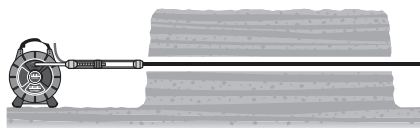

Figure 11 – Connect Air Hose To The CROSSCHEK Inspection System
5. Securely connect the air hose to the adapter on the cone of the CROSSCHEK Inspection System (Figure 11). Air hose must have a rotating swivel connection to prevent binding and kinking. Do not twist CROSSCHEK/Pushrod while attaching air hose.